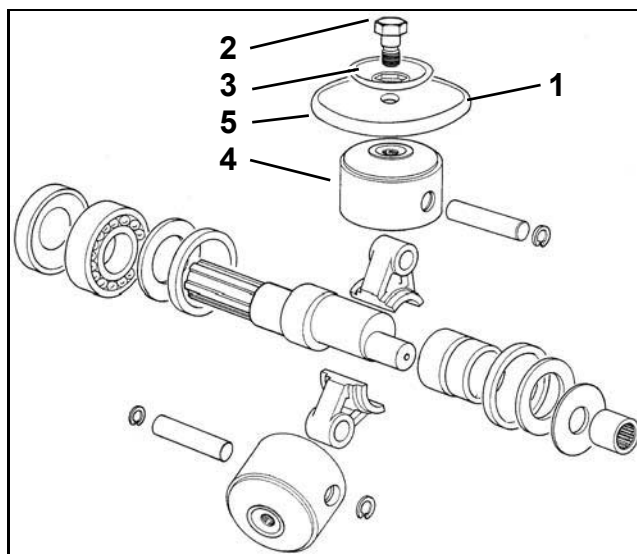
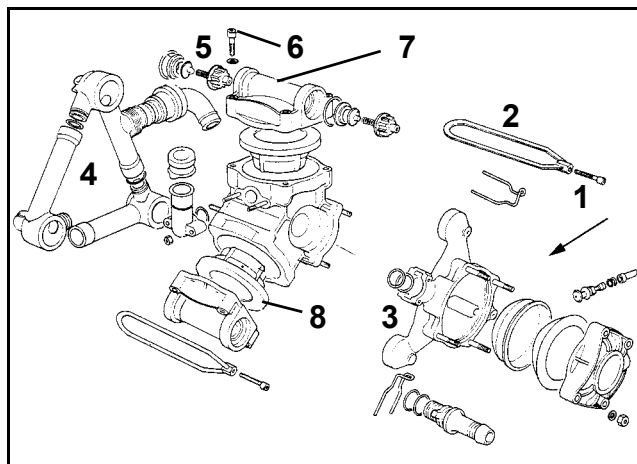

Fig. 135
Fig. 136
Check the piston diaphragms (Fig. 135/1) at least once a year by dismantling.
- Slacken the bolts (Fig. 136/1).
- Remove the tensioning clamp (Fig. 136/2) as well as the suction- and pressure hoses (Fig. 136/3, Fig. 136/4) including the valve groups (Fig. 136/5). Pay attention to the fitting position of the suction- and pressure-side valves
- Take off the cylinder head (Fig. 136/7) after removal of the bolts (Fig. 136/6).
- Checking the piston diaphragms (Fig. 135/1).
- Slacken the bolt (Fig. 135/2) and remove the piston diaphragm (Fig. 135/1) together with the retaining disc (Fig. 135/3) of the piston (Fig. 135/4).
- Remove the cylinder (Fig. 136/8) from the pump housing.
- Fit the piston diaphragm (Fig. 135/1).
- Fasten the piston diaphragm in such a way with the retaining disc and bolt to the piston so that the edge (Fig. 135/5) shows towards the cylinder head side (Fig. 136/7).